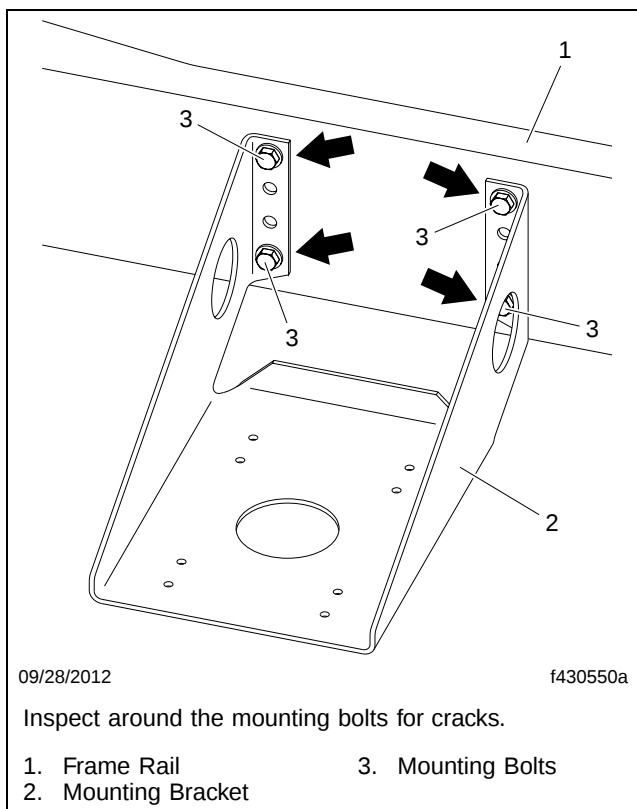

Fig. 1, Inspecting for Cracks
2. Inspect each air tank mounting bracket for evidence of cracks in the vicinity of the bracket-to-frame mounting bolts. See **Fig. 1**.